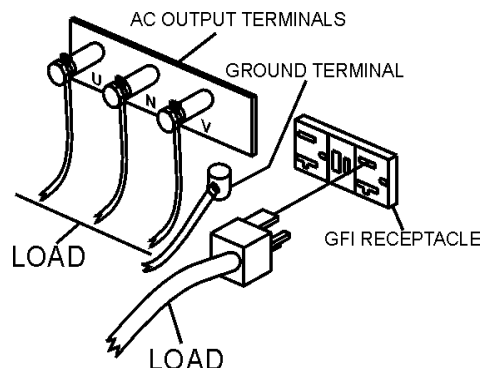

Figure 40. UNV Terminal Lugs (Load)
2. Connect the load to the UNV terminals as shown in Figure 40. These terminals can be found on the output terminal panel, (see page 11 Figure 33). To gain access to the output terminals lift the UNV cover. Tighten terminal nuts securely to prevent load wires from slipping out.